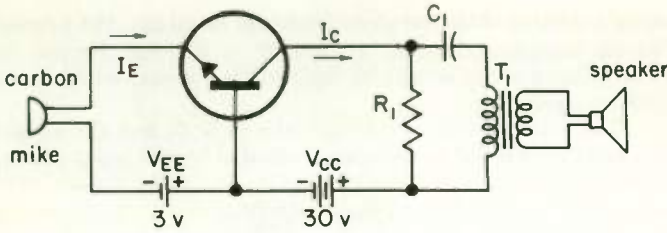

Fig. 20
1. A simple example showing practical use of the common-base circuit is the transistorized megaphone of Fig. 20. The carbon microphone has a resistance of 200 ohms and requires a d-c current through it of approximately 10 ma to work well. The transistor used should have an I_C value of approximately 10 ma. Speaking into the microphone varies the microphone resistance to values above and below 200 ohms, in accordance with the amplitude of the sound waves striking the diaphragm. This causes I_E to vary above and below its average or d-c value, thus producing an a-c input component, which is the signal to be amplified. The emitter-base impedance in Fig. 20 can be assumed to be approximately (a) _____ ohms. That being the case, the emitter bias current is approximately (b) _____ ma, and the collector current is approximately (c) _____ ma.
3. Why would it not be satisfactory to change the transistor connections in Fig. 20 to a grounded-emitter configuration?